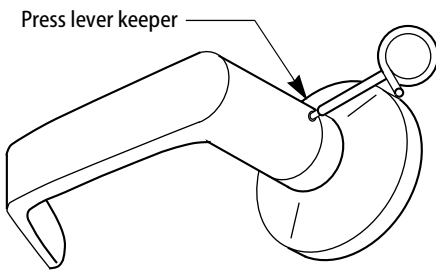

Figure 5—Pressing the lever keeper
- 1 Press the lever keeper with the pin punch or tool tip in the keeper hole as shown in Figure 5.